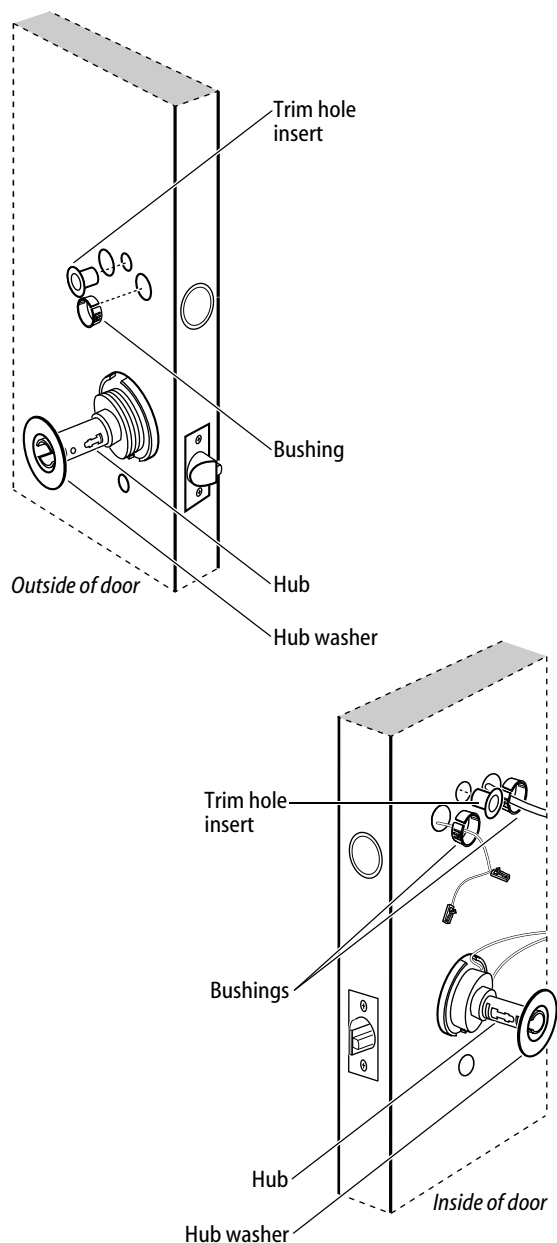

Figure 14 Installing the trim hole inserts, bushings, and hub washers
- 1 Insert the two trim hole inserts into the upper trim hole on each side of the door, as shown in Figure 14.
Insert two bushings into the door status switch & LH/LHRB reader wire hole on each side of the door, as shown in Figure 14.
- 3 Insert a bushing into the remaining wire hole on the inside of the door, as shown in Figure 14.